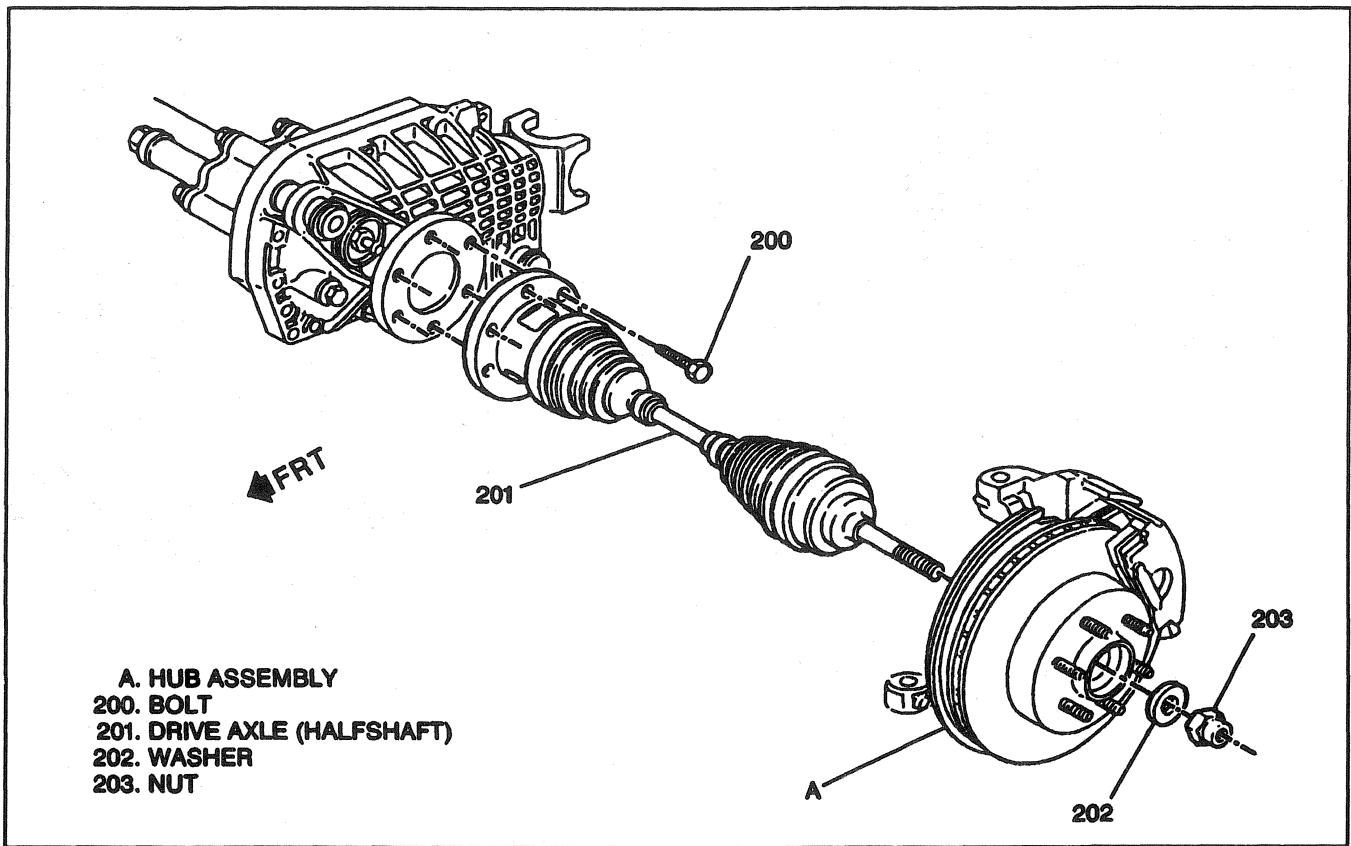

Figure 5—Drive Axle (Halfshaft)
↔ Remove or Disconnect (Figures 5 through 12)
2. Drive axle (halfshaft) hub nut (203) and washer (202) (Figure 5).
- Loosen, but do not remove the 6 bolts (200) securing inboard C/V joint drive flange to the output shaft companion flange (Figure 5).
14. Six bolts (200) from inboard joint flange (Figure 5).
Install or Connect (Figures 5 through 12)